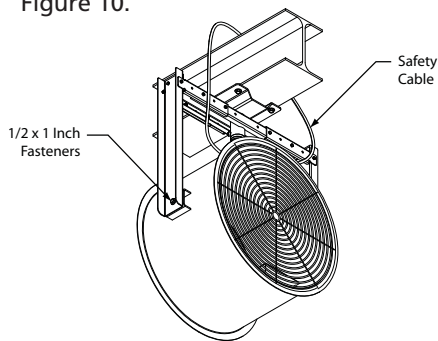

Figure 10 — Ceiling-Mount Bracket Shown With Industrial Air Cannon
4. Align fan housing in the desired position for air flow and fasten to the assembled Ceiling-Mount Bracket using (2) 1/2 x 1 inch fasteners.
5. Mount the bracket to a structurally adequate ceiling or I-beam using (4) 1/2 x 1 inch fasteners.
7. Attach the safety cable for fall protection. Secure to ceiling or I-beam through the lifting eye located on the top of the fan housing. Allow enough slack in the safety cable to allow adjustment to the Industrial Air Cannon. Refer to Figure 10.